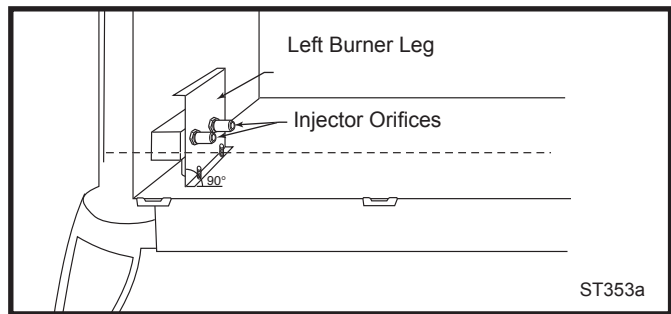

Fig. 34 Remove and replace injector orifices.
8. Remove injector orifices from left burner leg using 1/2" wrench. (Fig. 34)
NOTE: It is very critical to keep the left burner leg, which holds the injectors, at a 90° angle to the base. (Fig. 34) This keeps the orifices aligned with the tubes inside burner. Failure to do so could affect the flame appearance and performance of the unit.